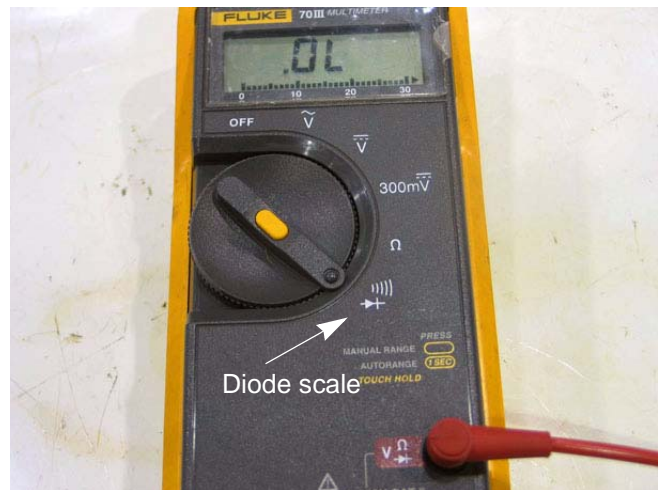

Figure 7.61
2. Set the DMM to the diode or Ω scale. See Figure 7.61.